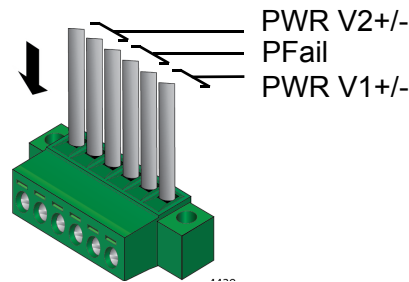

Figure 33. Insert Power Supply and Alarm Wires into Power/Alarm Connector
- Insert the power wires into the wiring slots 1 and 2 (V1+ and V1-) for one power supply. If you are installing the wires for a second power supply, insert them into wiring slots 5 and 6 (V2+ and v2-). Insert the two alarm wires in pins 3 and 4 - there is no polarity for the alarm wires. See for Figure 33 for the insertion of the wires.